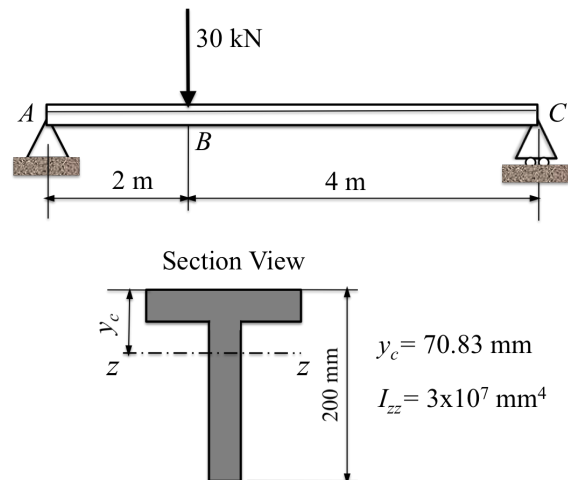

Figure 6
6. A simply supported beam having T-section is subjected to a concentrated load  $P = 30$  kN at location  $B$  as shown in Figure 6.